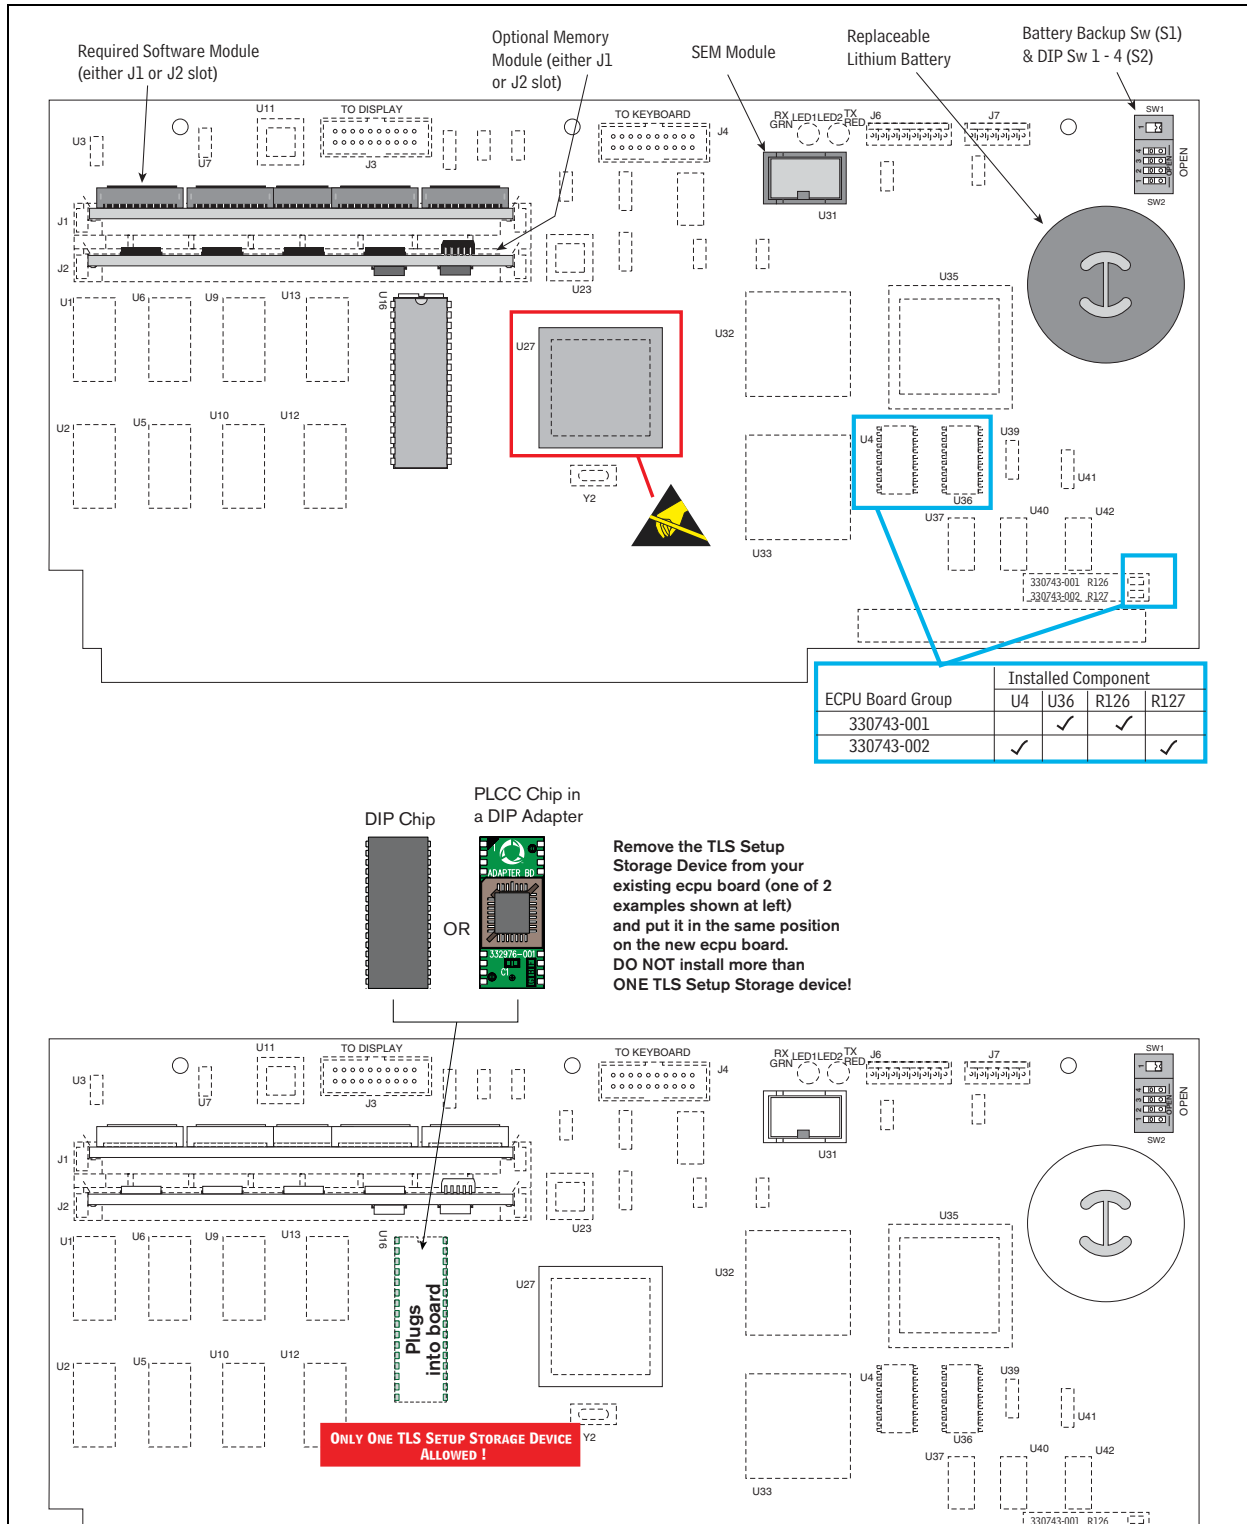
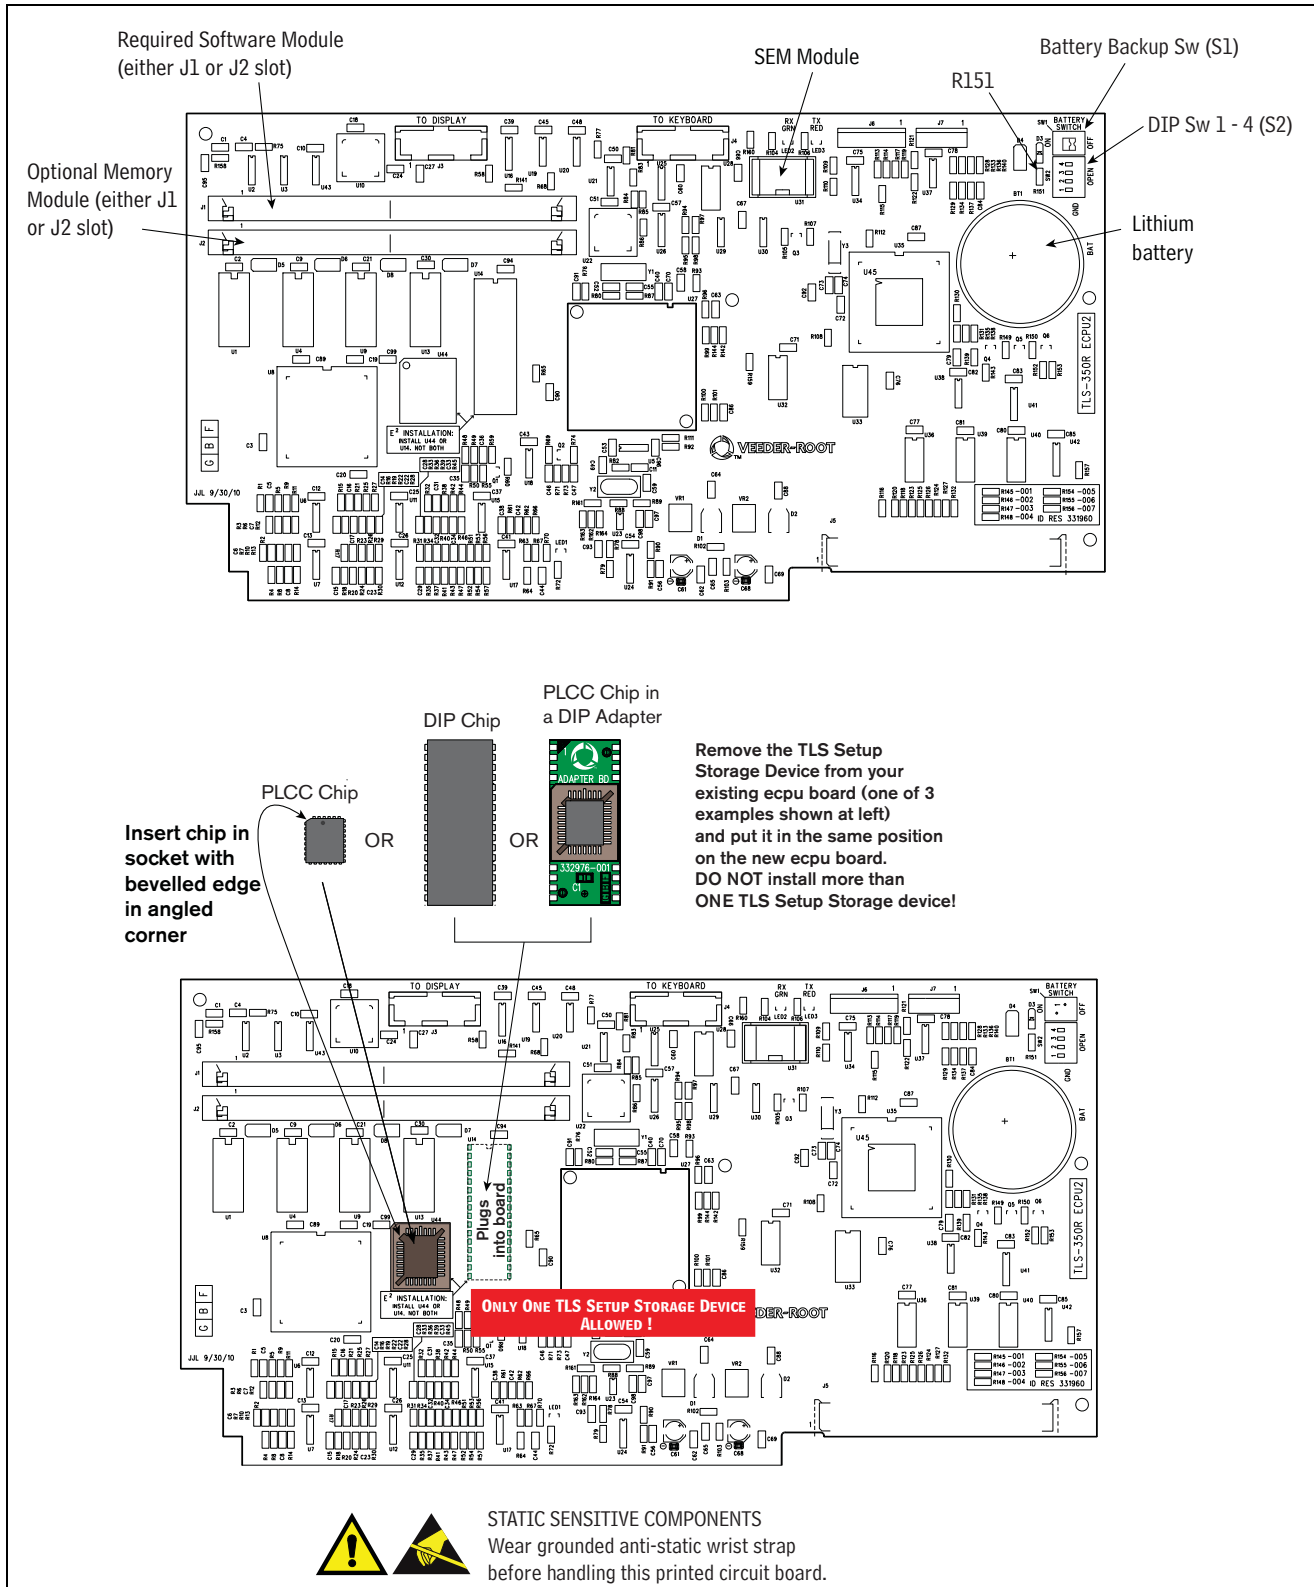

Figure 2. ECPU Board Layout with Surface Mounted Components
Figure 3. ECPU2 Board Layout
3. Locate the TLS Setup Storage device on your ECPU board (see Figure 2 on page 7 or Figure 3 on page 8) as appropriate.